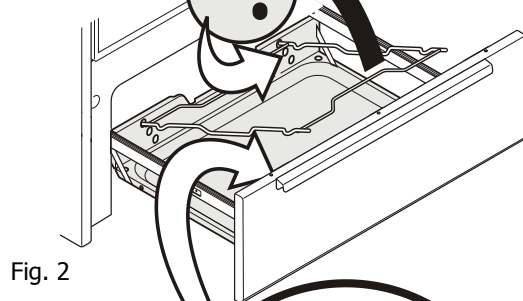
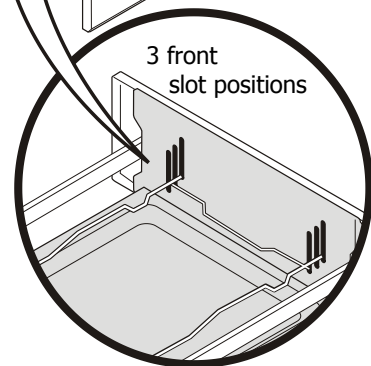

Fig. 2
Fig. 3
4. If needed, change broiler rack position by tilting front of rack up & pulling rack completely out from locating holes in rear of broiler drawer (See Fig. 2). Reposition back of rack in one of 3 locating holes and allow front of rack to slide down into the corresponding slots in front of broiler drawer (Fig. 3). Be sure rack is level before broiling.